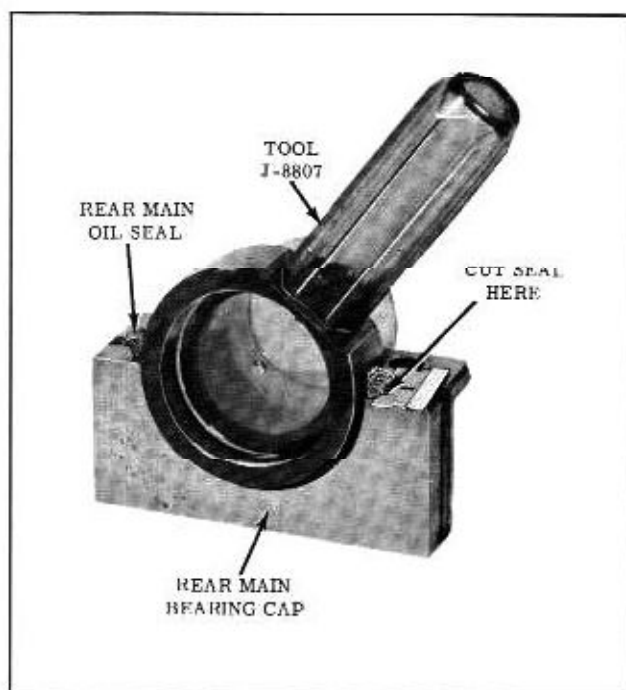

Fig. 8-46 Installing Rear Oil Seal
8. No. 5 bearing - install new asbestos oil seal in the rear main bearing cap. (REAR MAIN BEARING OIL SEAL) (Fig. 8-46)
6. Using Seal Installer J-8807, hammer seal into groove. (Fig. 8-46)
NOTE: To check if seal is fully seated in the bearing cap, slide Tool J-8807 away from seal. With Tool J-8807 fully seated in the bearing cap, slide tool against the seal. If under cut area of tool slides over the seal, the seal is fully seated. If tool butts against the seal the seal must be driven further into the seal groove. Rotate tool before cutting off excess seal packing. (Fig. 8-46)
7. Hold Tool J-8807 as in Fig. 8-46. Cut seal 1/16" from bearing surface. Taper end of seal into a point. With screw driver, pack seal fibers towards center, away from edges. Rotate seal installer to cut seal between notch and handle.